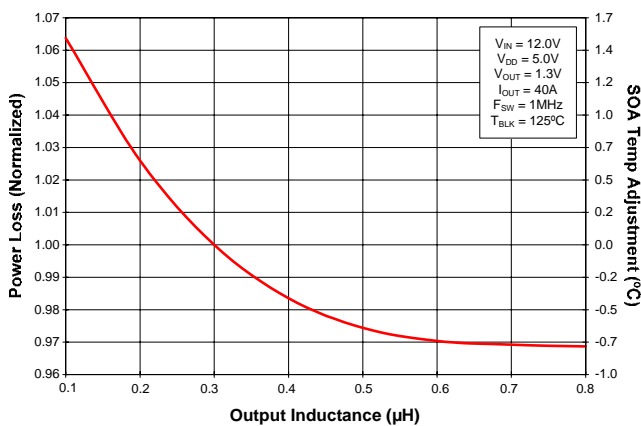

Figure 5 Normalized Power Loss vs. Inductance
| (Figure 5) | Normalized power loss for output inductor $\approx$ 1.026 |
- (Figure 5) SOA temperature adjustment for output inductor  $\approx 0.6^{\circ}\text{C}$